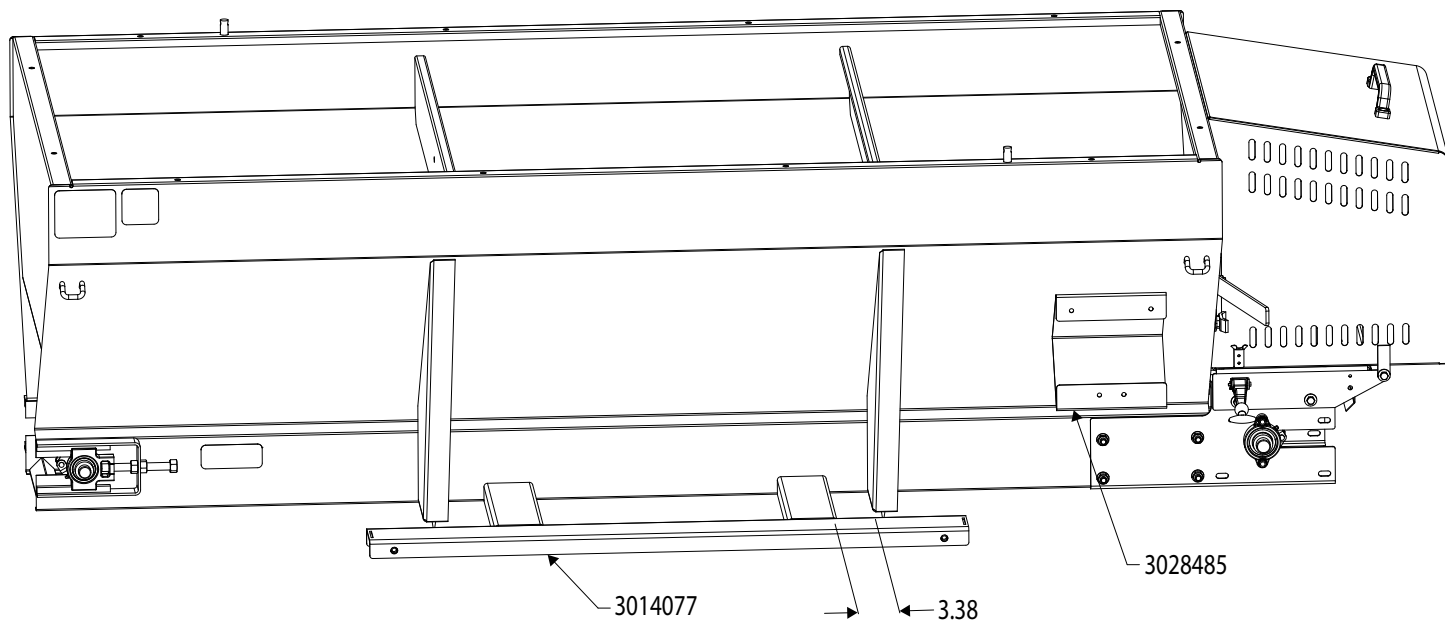

Fig. 1
- 1.** Position and weld Enclosure Bracket (#3028485) and Support (#3014077) to spreader as shown on Fig.1.